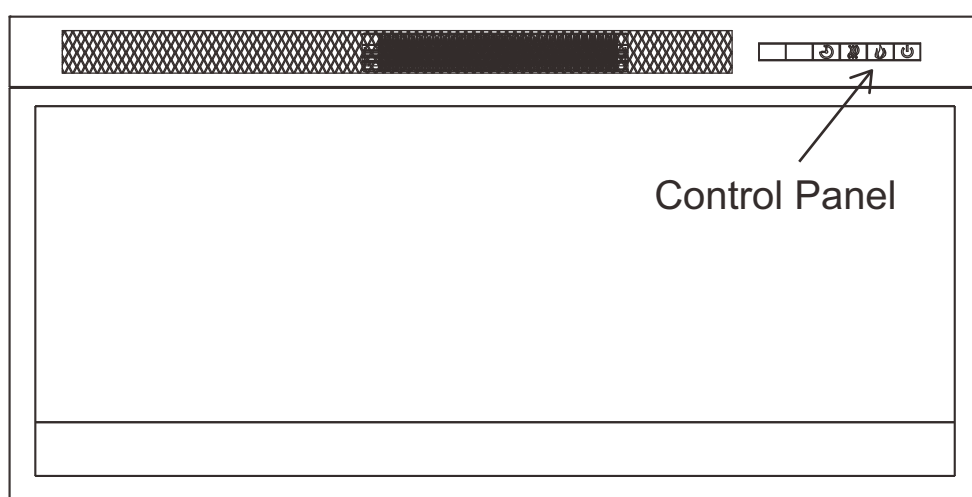

Figure 1
- Using the touchpad control panel, located on the upper right-hand of the fireplace (see Figure 1)